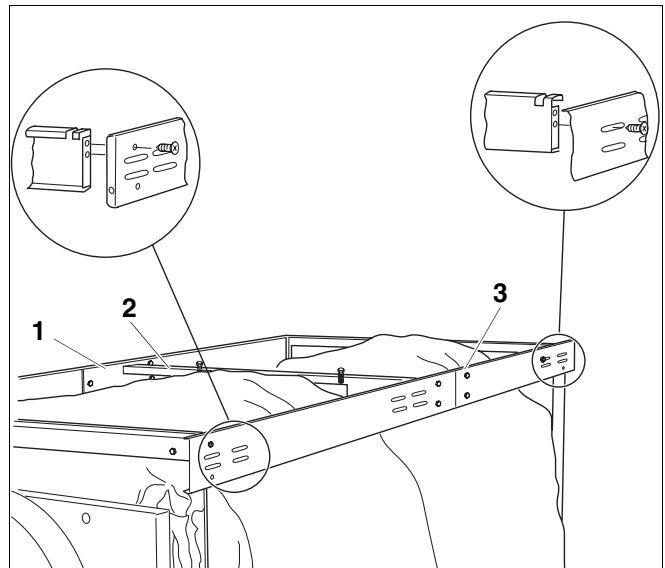

Fig. 12 Secure the longitudinal bracket with bolts supplied
- Hook the first bracket (Fig. 12, **Item. 1**) with the U-shaped edge into the respective recess of the front, center and rear cross brackets.
- The bracket is secured at the front hole and the rear slot using one self-tapping screw each (Fig. 12).
- Hook the second bracket (Fig. 12, **Item. 3**) with the U-shaped edge into the respective recess of the front, centre and rear cross brackets.
- Align the side wall position with bolts Fig. 12.